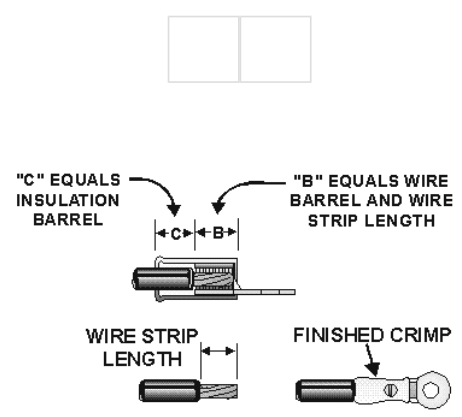

Figure 2-22.—Proper insertion of stripped wire in insulation terminal lug for crimping.
5. Insert the stripped wire into the terminal lug barrel until the wire insulation butts flush against the near end of the wire barrel. (See figure 2-22.)